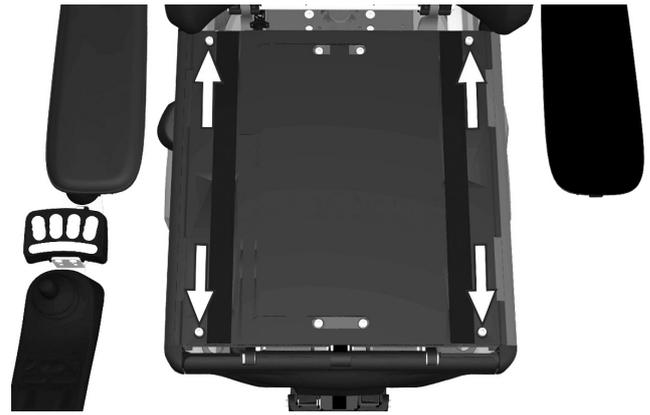

Figure 242. The seat plates are held in place by two screws at the back edge and two quick-mount clamps at the front.
2. Remove the seat plates, which are held in place by two screws at the back edge and two quick-mount clamps at the front. See fig. 242. First remove the screws, then use your hand to carefully push the seat plate from below to release the quick-mount clamps at the front.